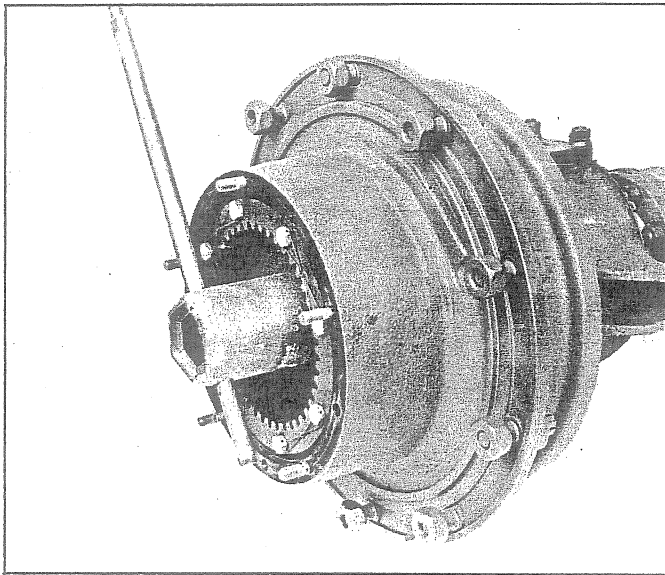

Fig. 7 - Tool Used to Remove Spindle Nuts
5. Use special tool as shown in Fig. 7, and remove the outer spindle nut.